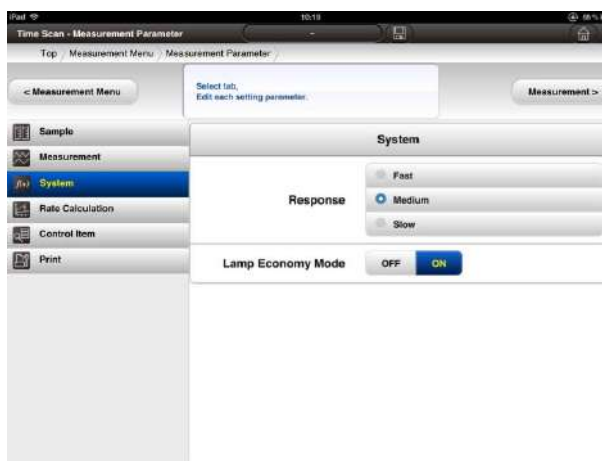

Fig. 4-145 System Conditions Window
- (1) Press  [System tab] to set system conditions.
- (2) The system conditions window (Fig. 4-145) will then be shown. Set the conditions for response and lighting mode according to the guidance. See Table 4-63 for details.